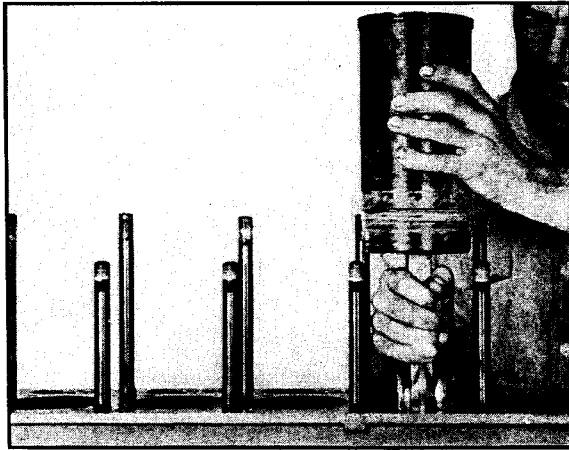

Fig. 12-25. Inserting liner, piston and rod
2. Carefully lower the liner, piston and rod assemblies into their respective liner bores. Fig. 12-25.